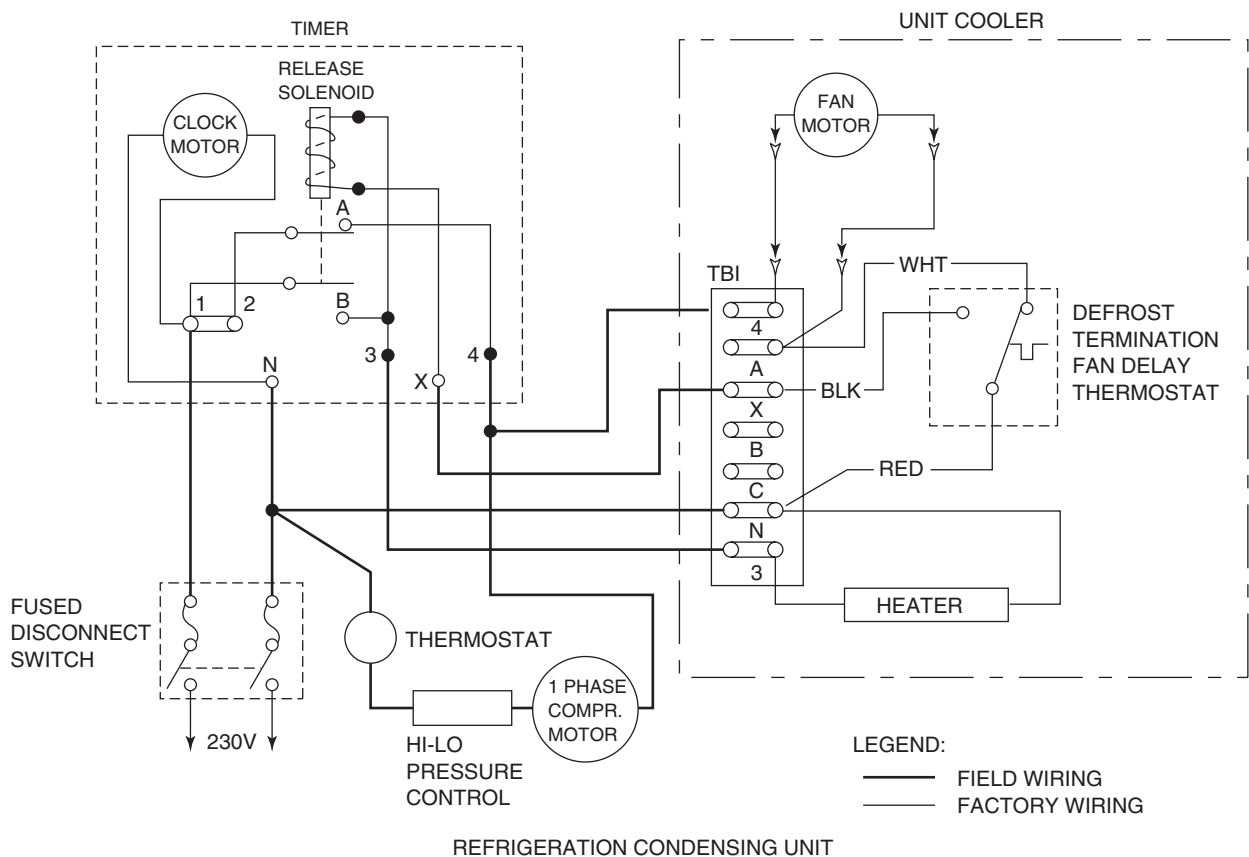

FIGURE 20-28 Refrigeration condensing unit.
7. Redraw the refrigeration condensing unit Figure 20-28 as a ladder diagram.
8. See the wiring diagram in Figure 20-28 for a refrigeration condensing unit in the 5- to 7.5-hp range.
9. See the wiring diagram in Figure 20-28 for a refrigeration condensing unit.
10. In Figure 20-28, during the defrost cycle, is the fan motor operating when the release solenoid actuates? Explain your answer.